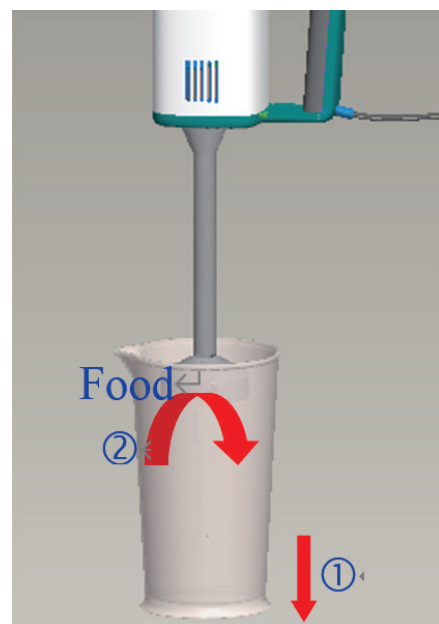

Fig.3
- Then you can put it to the beaker with food. (Fig 3)